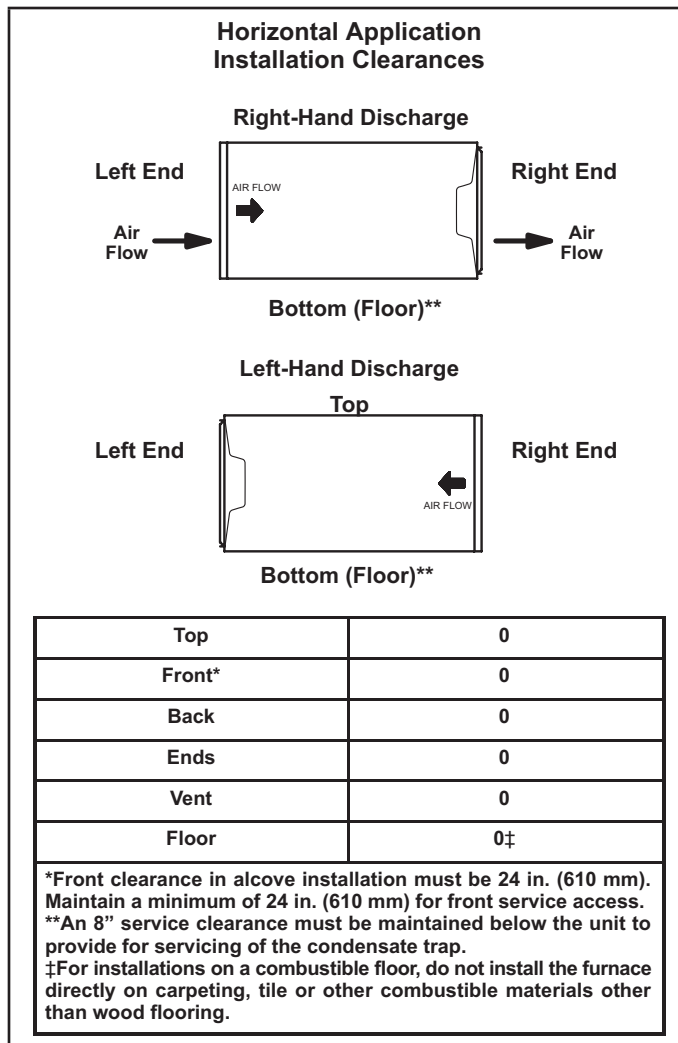

FIGURE 17
The EL296UHE furnace can be installed in horizontal applications with either right- or left-hand air discharge. Refer to FIGURE 17 for clearances in horizontal applications.
- 1 - Select location for unit keeping in mind service and other necessary clearances. See FIGURE 17.